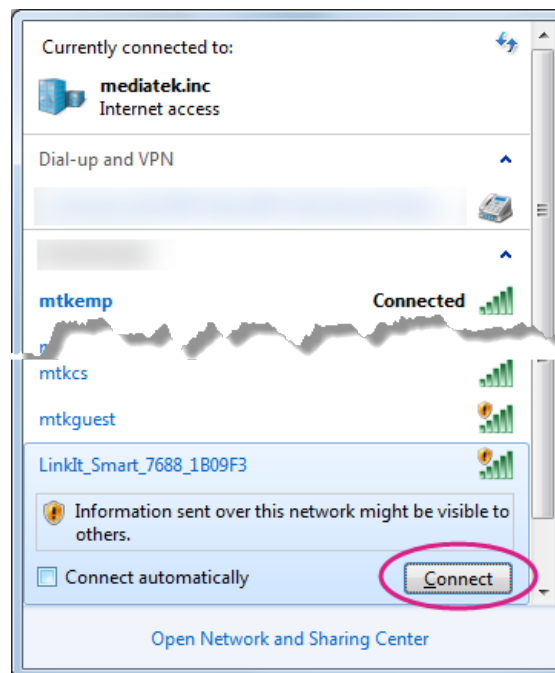

Figure 16 Connecting to LinkIt Smart 7688 AP
- 2) Open the Wi-Fi connection utility on your computer and connect to the access point named LinkIt_Smart_7688_1B09F3 (1B09F3 is the MAC address and yours could be different), as shown in Figure 16.